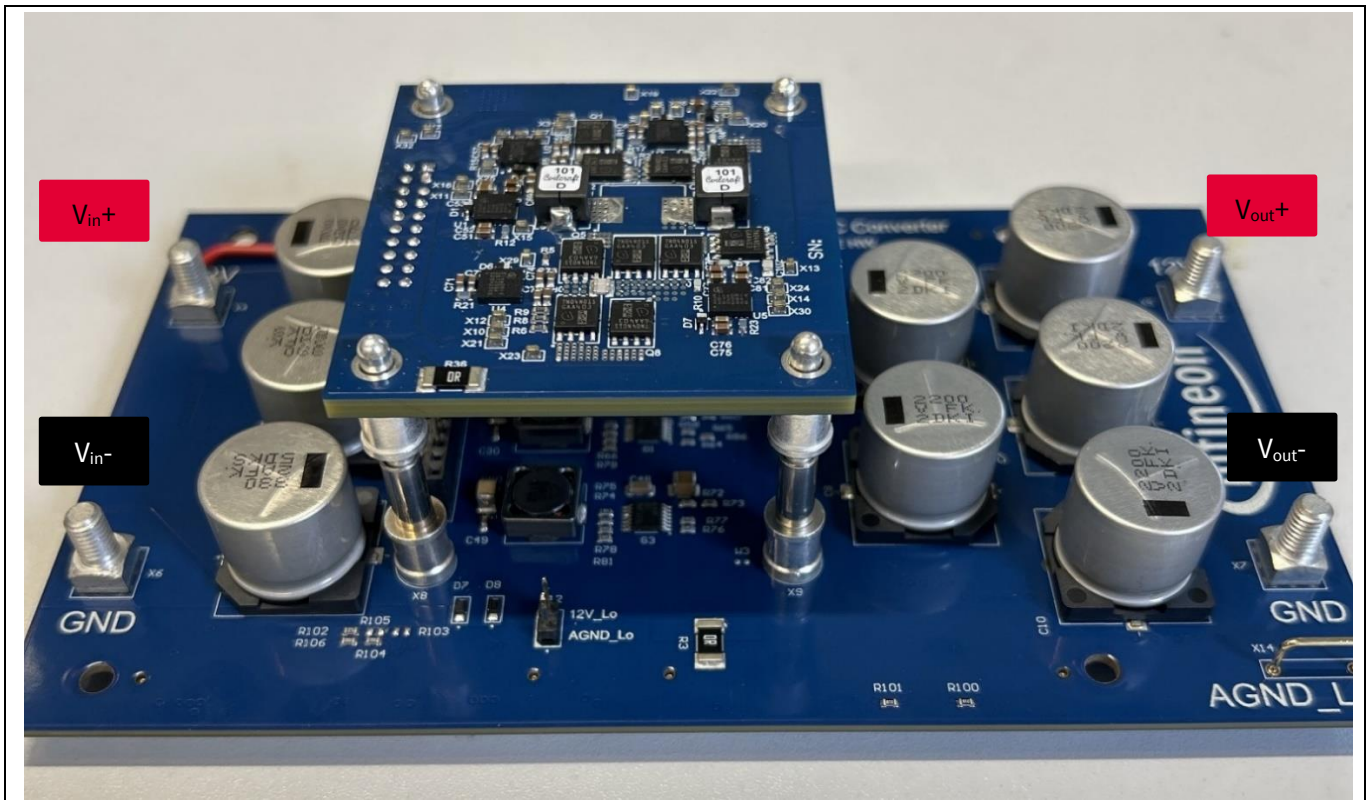

Figure 4 48V-12V DC-DC converter reference design - TOP view
The system requires a nominal input voltage of 36 V to 60 V to power the whole set-up. The input voltage is applied to V_{in+} and V_{in-} as can be seen in Figure 4 below. When the system is up and running, a 9 V to 15 V output will be observed (assuming no load) at the output terminals V_{out+} and V_{out-} as indicated in Figure 4 below.
- Connect the DC-DC converter board with the top side of the interface board (see Figure 4).